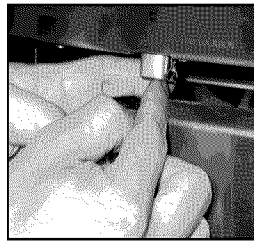
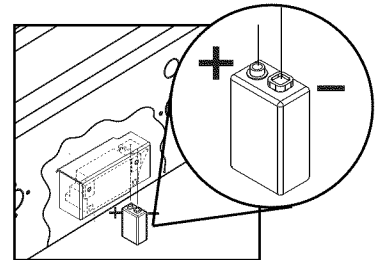

FIG. 43
FIG. 44
4. Re-install upward and push to snap - Fig. 43. (Polarity is shown in Fig. 44).